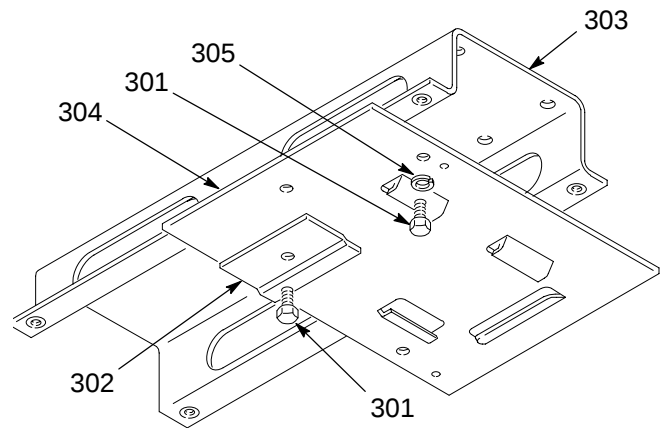

Fig. 3
2. If you are **NOT** installing a hose reel enclosure, order the Reel Mounting Base parts listed under **Accessories** on page NO TAG. Then install the frame (303) and base plate (304) as shown in Fig. 3.